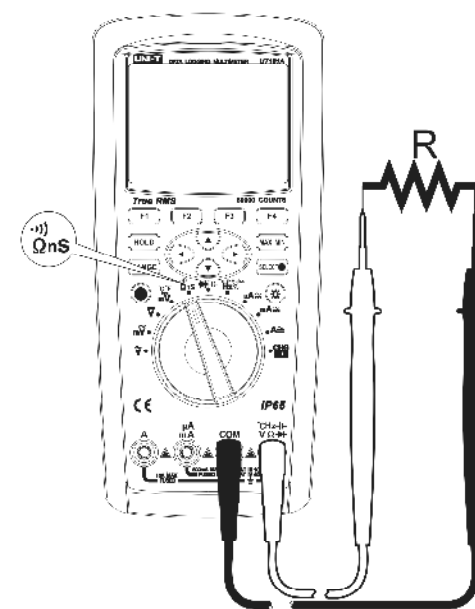

Figure 8
- 2) Set the rotary switch to the measurement Ω nS $\cdot \cdot \cdot$ and current Ω is the default resistance measurement as shown in Figure 8. Connect the test leads to both ends of the measured resistance.
- 2) Set the rotary switch to the measurement Ω_{nS} , press the key SELECT to select conductance measurement 60nS. Connect the test leads to both ends of the measured resistance as shown in Figure 8.
- 2) Set the rotary switch to the measurement Ω mode, press the key SELECT to select the continuity test mode. Connect the test leads to both ends of the measured resistance as shown in Figure 8. Press the function key MENU (Menu) to enter the menu items. If pressing the key SHORT (Menu), then the buzzer selects